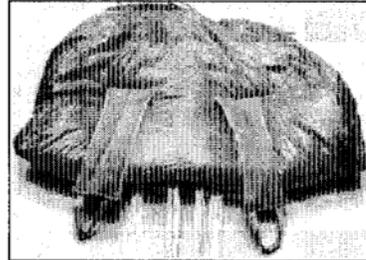

Figure 6
**Step 13** “S” fold the canopy into a stack on itself to the length approximately the distance from the mouth of the bag to the grommets in the center of the bag. *Figure 6*